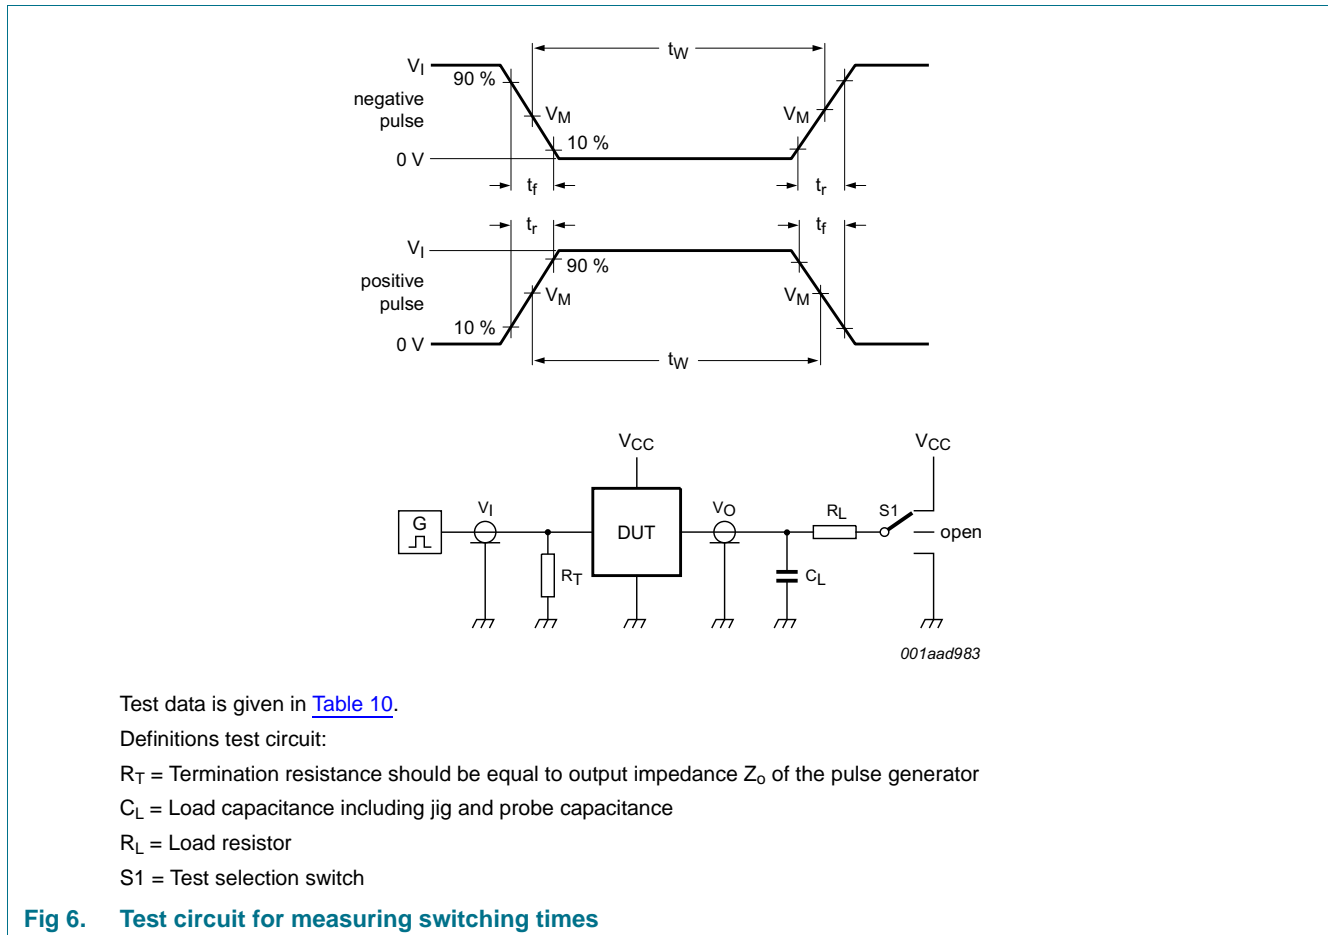

Fig 6. Test circuit for measuring switching times
*GND = 0 V. For test circuit see Figure 6.*
GND = 0 V. For test circuit see Figure 6.